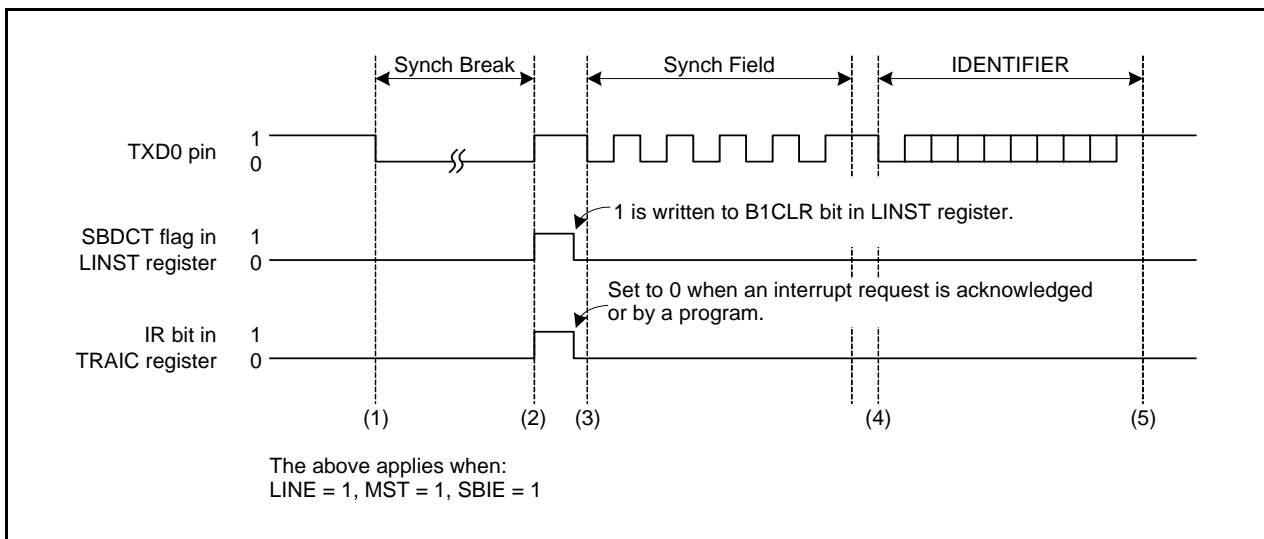
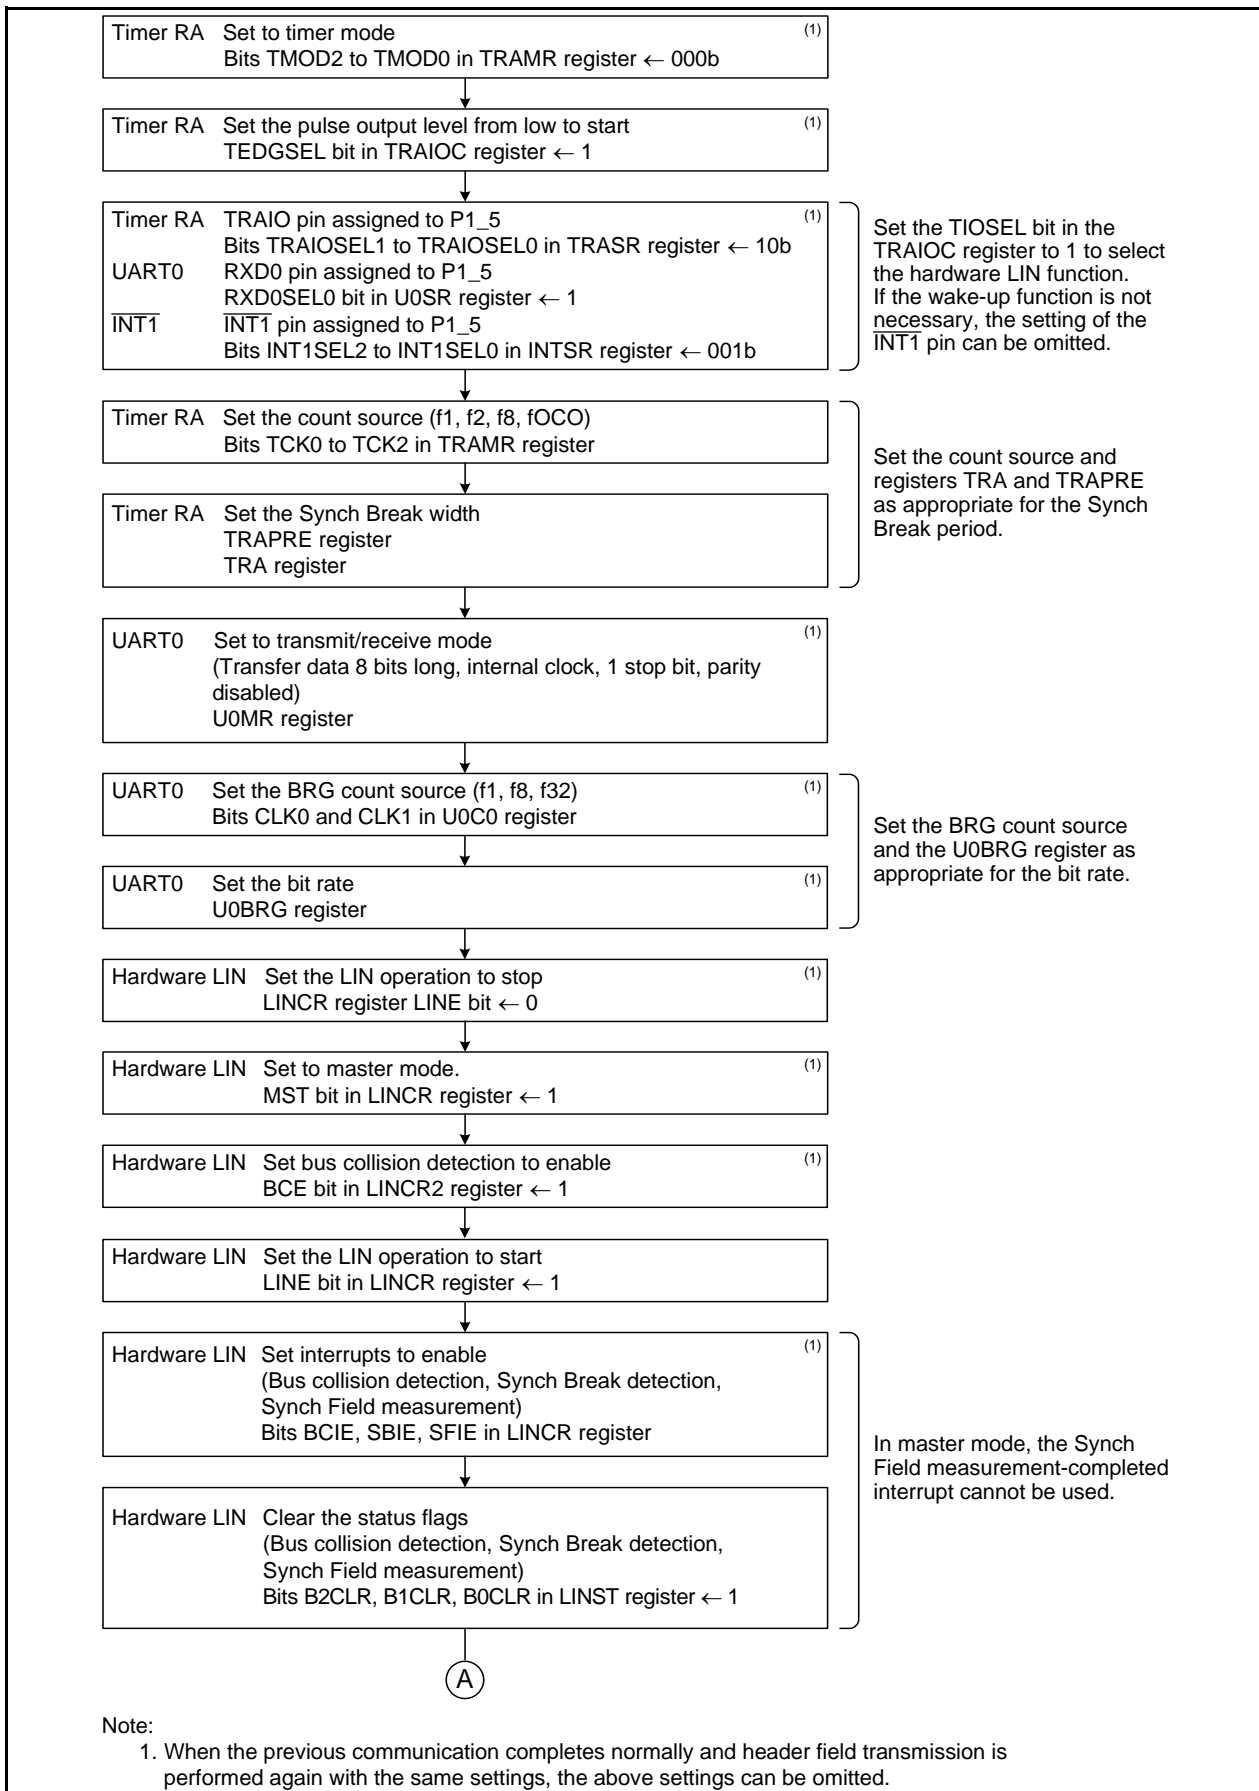
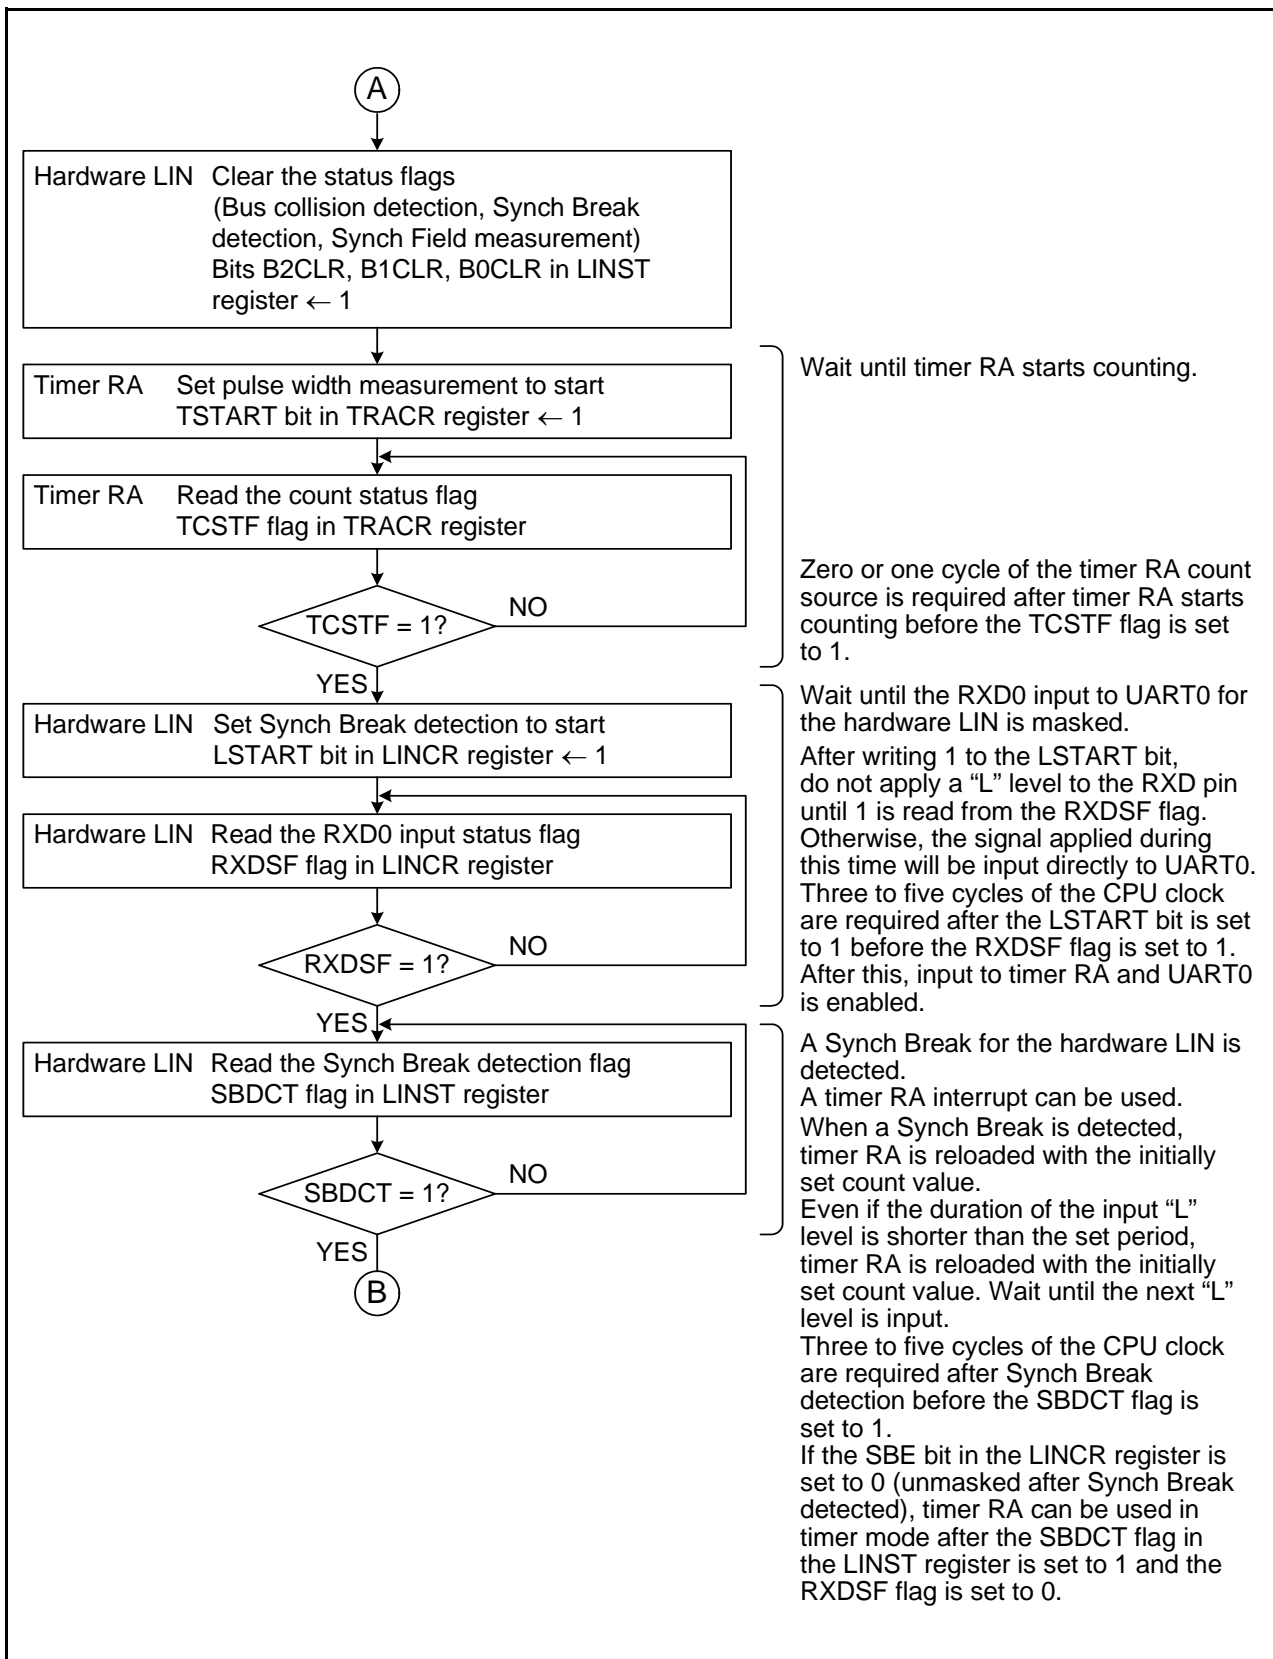

Figure 27.2 Operating Example during Header Field Transmission
Figure 27.3 Header Field Transmission Flowchart Example (1)
Figure 27.7 Header Field Reception Flowchart Example (2)
3. Inputs to timer RA and UART0 are disabled immediately after the LINE bit is set to 1 (LIN operation starts). (Refer to **Figure 27.3 Header Field Transmission Flowchart Example (1)** and **Figure 27.7 Header Field Reception Flowchart Example (2)**.)
Figure 27.2 shows an Operating Example during Header Field Transmission in master mode. Figures 27.3 and 27.4 show Examples of Header Field Transmission Flowchart.